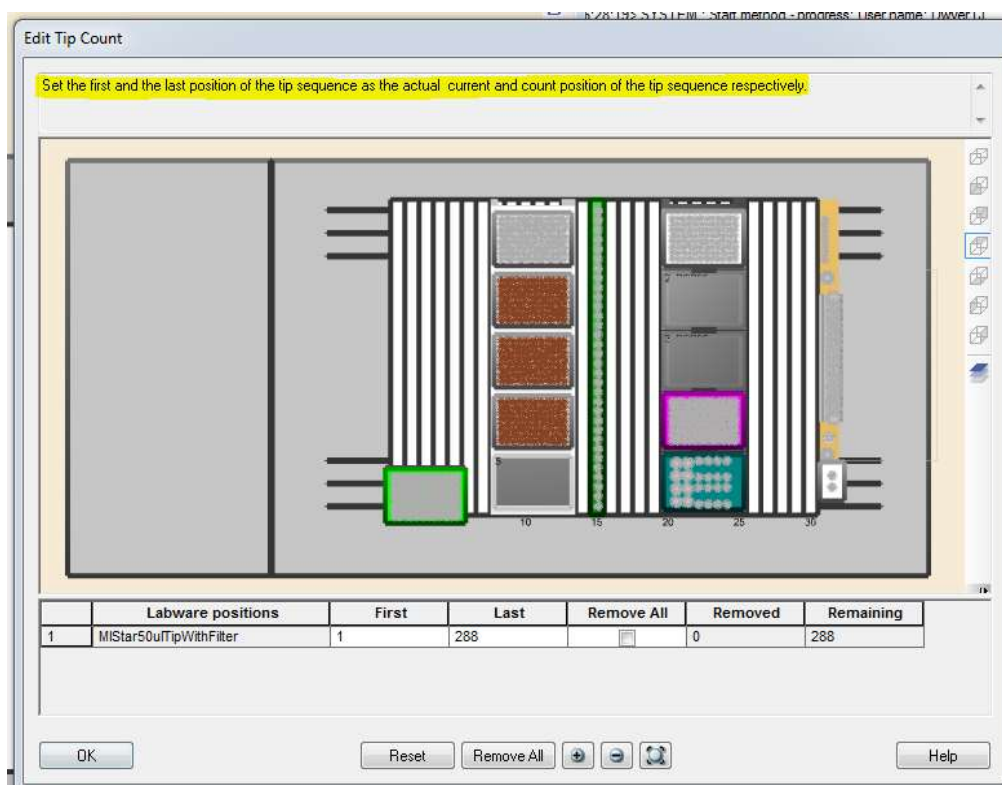

Figure 6 Edit Tip Count Prompt.
15. A prompt will appear "Edit Tip Count" asking for the first and last position of the tips in the tip carrier (see Figure 6)